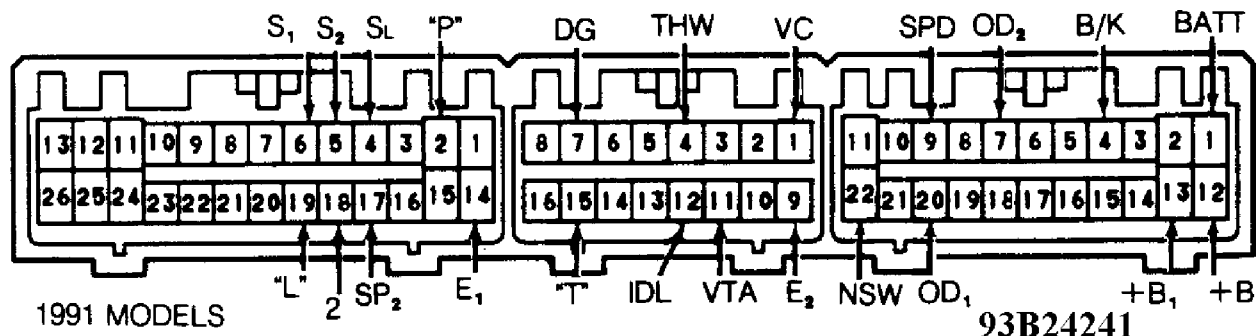

Fig. 13: ECU Terminals & Checking ECU Voltages (Celica - 1 of 3)
2) Using ohmmeter, check resistance between terminal SL and body ground with connector removed from ECU. See Figs. 13 and 16.
3) Obtain access to ECU. On MR2 models, ECU is located near left rear corner of engine compartment. On Celica and Paseo, ECU is located near front of center console. See Fig. 1. Connect voltmeter between terminals B/K and E1 on ECU with connector installed on ECU. See Figs. 13 and 16.
8) If voltage increases from zero to 2 volts, check for 10-14 volts between terminals 2 and E1 on ECU with connector installed on ECU and shift lever in "D" position. See Figs. 13 and 16. If 10-14 volts exist, check for defective neutral start switch or wiring circuit. If 10-14 volts does not exist, replace ECU.
9) Check for 10-14 volts between terminals "L" and E1 on ECU with connector installed on ECU and shift lever in "D" position. See Figs. 13 and 16. If 10-14 volts exist, check for defective neutral start switch or wiring circuit. If 10-14 volts does not exist, replace ECU.
3) Obtain access to ECU, located near front of center console. See Fig. 1. Connect voltmeter between terminals B/K and E1 on ECU with connector installed on ECU. See Fig. 13.
6) Connect voltmeter between terminals "P" and E1 on ECU with connector installed on ECU. See Fig. 13. Check voltage with pattern select switch in POWER (depressed) and NORMAL (released) operating positions.
6) If voltage increases from zero to 2 volts, check for 10-14 volts between terminals 2 and E1 on ECU with connector installed on ECU with shift lever in "D" position and ignition on. See Figs. 13 and AUTO T
7) If voltage increases from zero to 7 volts, transmission or solenoid is faulty. If voltage increases from zero to 4 volts, connect voltmeter between terminals OD2 and E1 on ECU with connector installed on ECU. See Figs. 13 and 16.
4) Connect voltmeter between terminals B/K and E1 on ECU with connector installed on ECU. See Figs. 13 and 16.
- 2) Turn ignition on. Using voltmeter, check voltage between designated terminals on ECU with connector installed on ECU. Voltage should be as specified. See Figs. 13 and 16.
2) Ensure ignition is off. Disconnect electrical connector containing the SL, S1 and S2 terminals from ECU. See Figs. 13 and 16.